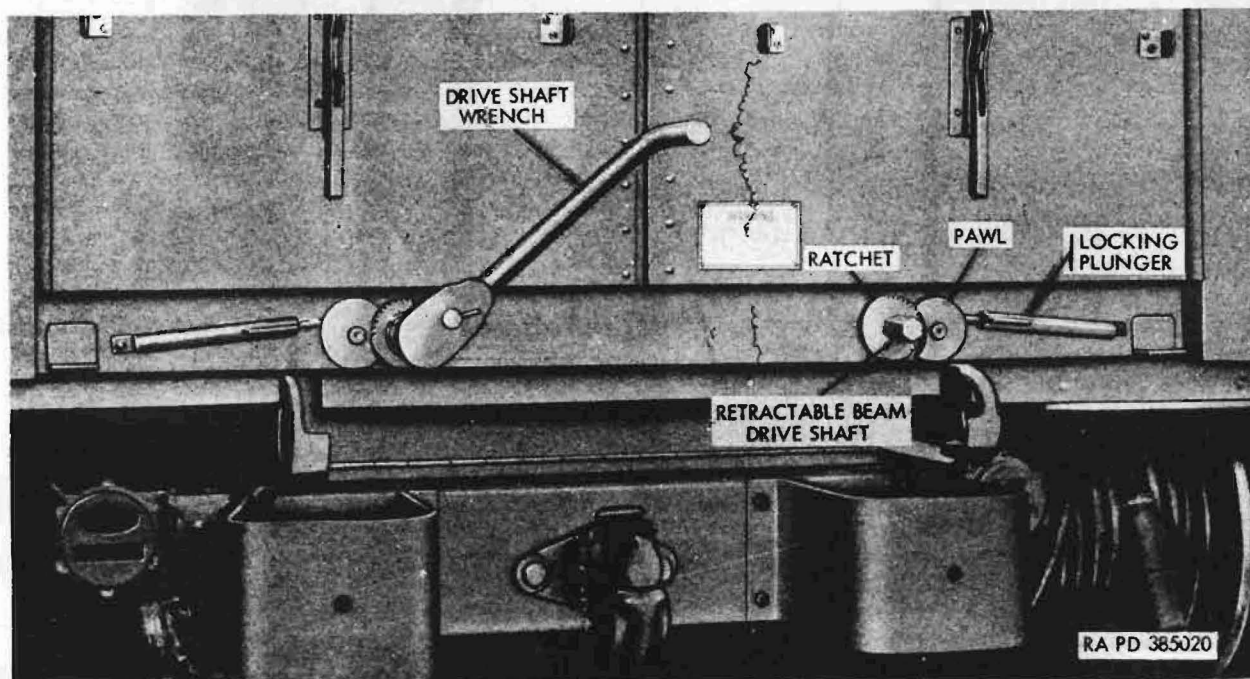

Figure 78. Retractable beam drive shaft locking mechanisms
- (4) Retractable beam drive shaft-locking mechanisms. Two retractable beam drive shaft-locking mechanisms (fig. 78), attached to the van rear cross-member, are used to secure the side panels in both the expanded and retracted position by locking the beam drive shafts against rotation. Each mechanism consists of a ratchet fixed to the shaft, crescent-shaped pawl, and spring-loaded locking plunger. To release both mechanisms before expanding the side panels, push the locking plungers downward. To lock both mechanisms after the side panels have been expanded or retracted, push the locking plungers upward.
- (5) Retractable beam drive shaft wrench. The retractable beam drive shaft wrench (fig. 78) is fitted to the ends of the retractable beam drive shaft protruding from the van rear cross-member to expand and retract the van side panels. To expand the left side panel, fit the wrench to the left shaft end and turn the shaft in a counter-clockwise direction. To retract the left side panel, turn the shaft in a clockwise direction. To expand and retract the right side panel, turn the right shaft in clockwise and counter-